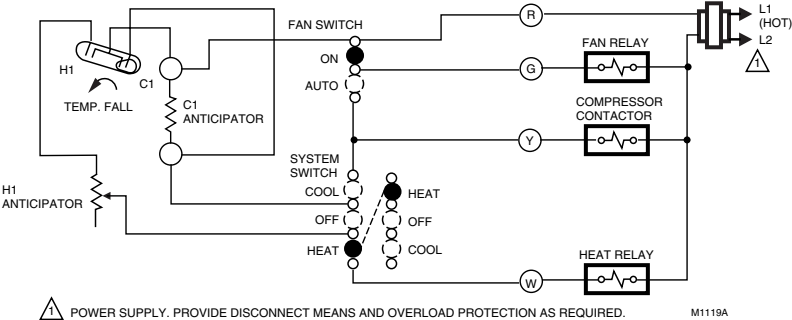

Fig. 3. Internal schematic and typical hookup diagram for T834C in standard heating-cooling system.
3. Connect the wires to the terminals on the back of the thermostat. See Fig. 3 through 12 for internal schematic and typical hookup diagrams. If control of fan operation from the thermostat is required in a central electric heat application, jumper terminals 1 and 2. See Fig. 1.